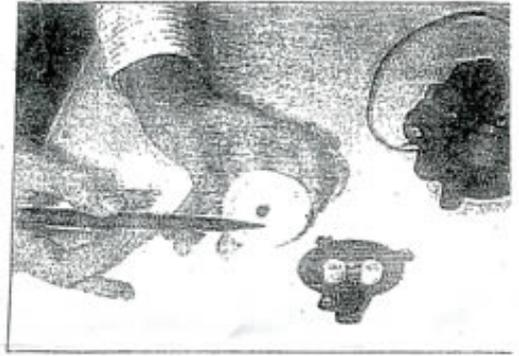

FIG. 6
- Clean housing, shaft, and gear of powdery residue and install the Delrin bushings in the triangular area of the plastic gear. (Fig. 6)